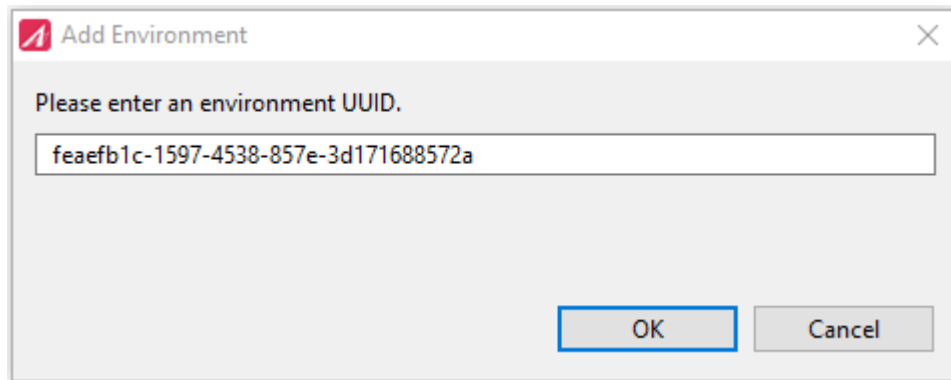

Figure 6.141: Add an environment
- Choose “Add Environment...” to open the input box (see figure 6.141).